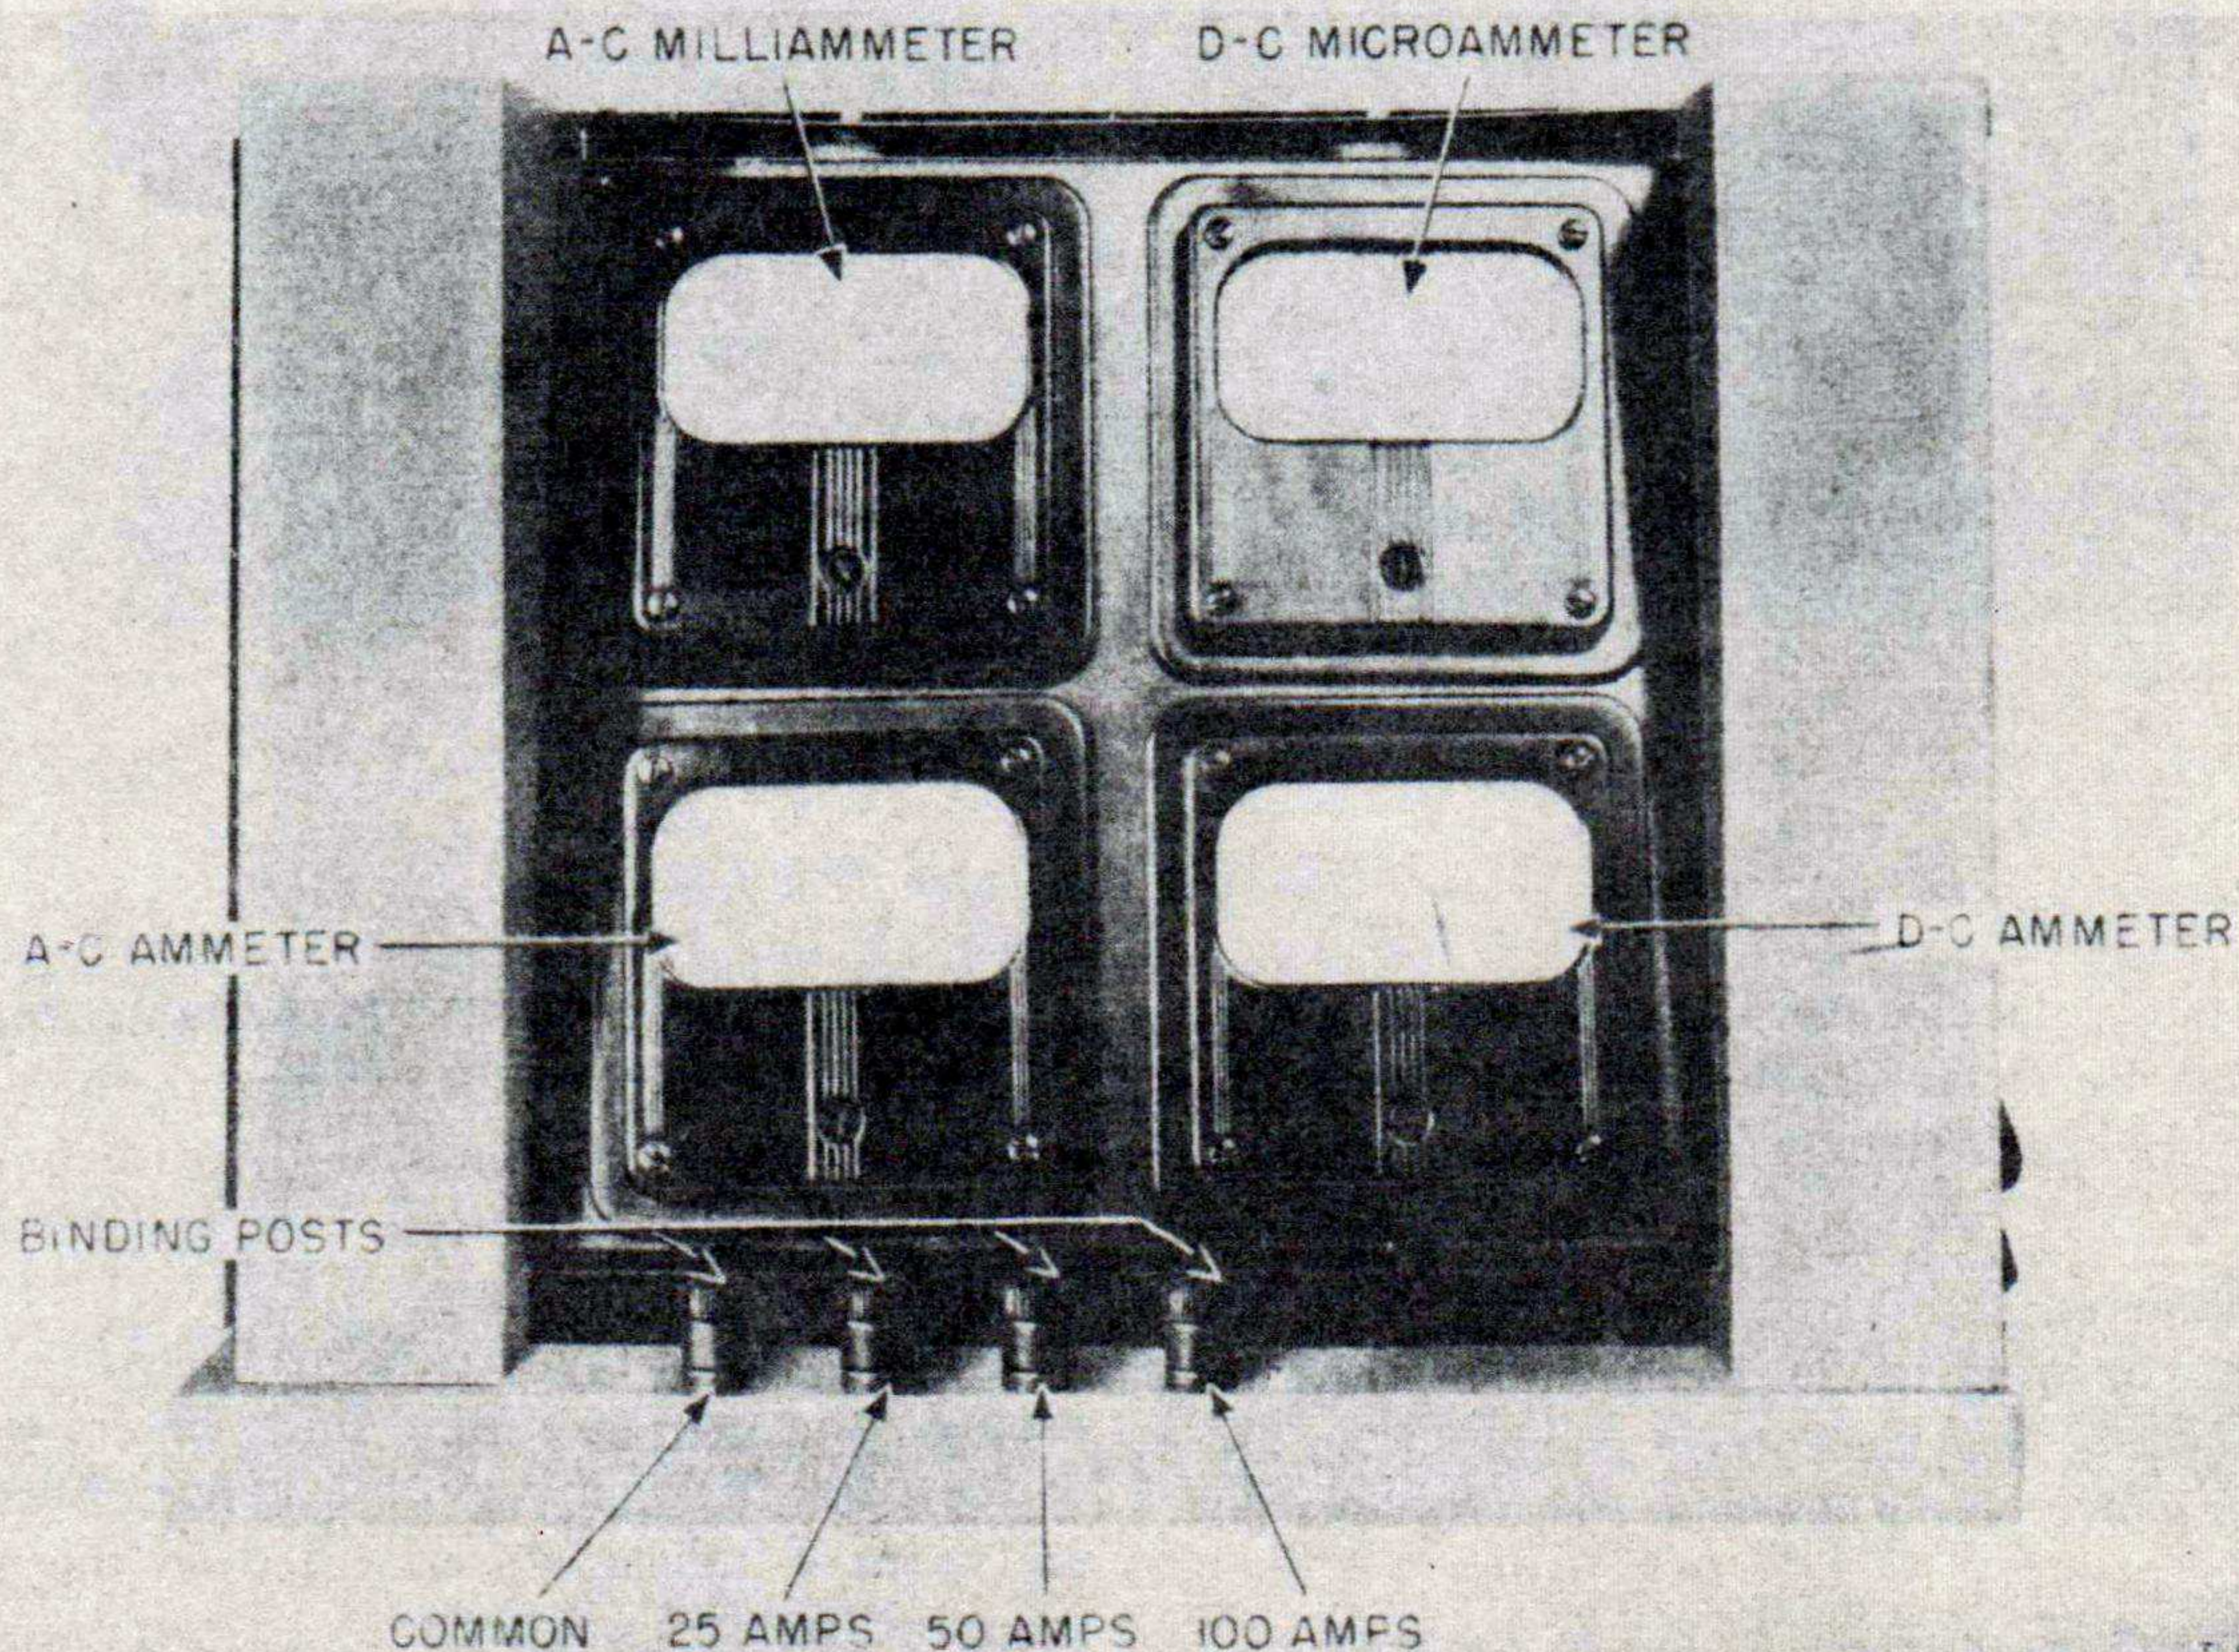

Figure 6. Ammeter Standards Unit TS-50/GSM-1 front view.
7. AMMETER STANDARDS UNIT TS-50/GSM-1 (fig. 6).